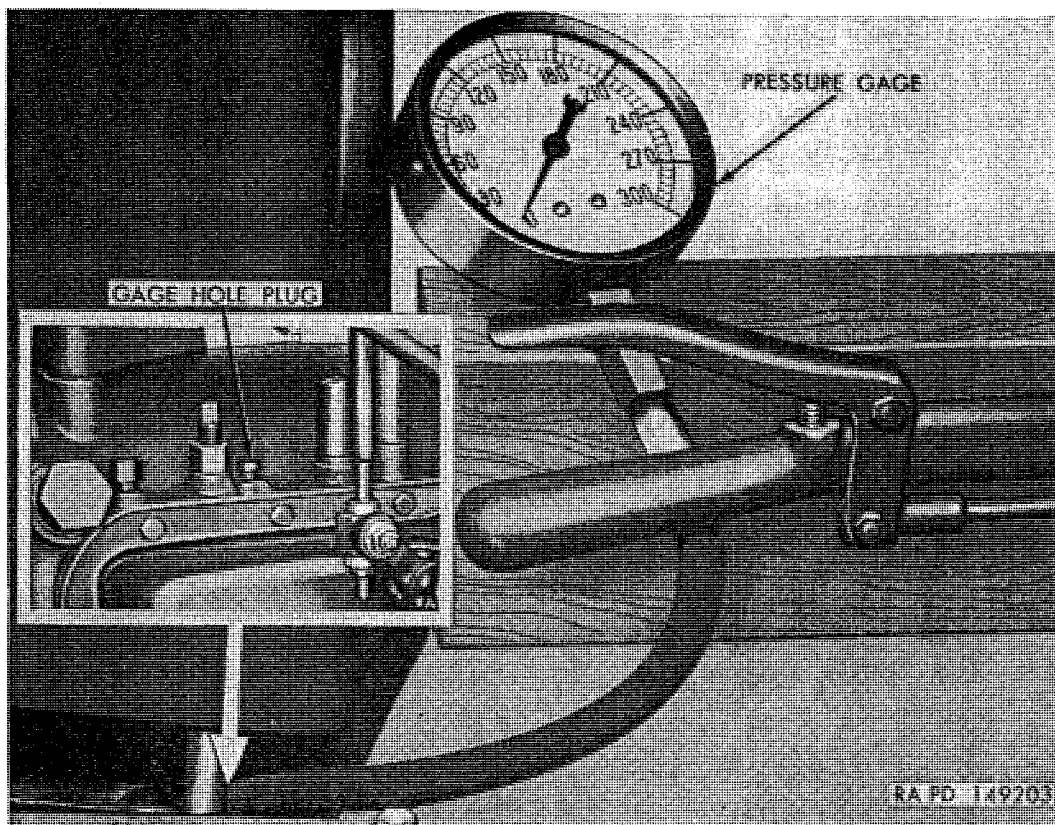
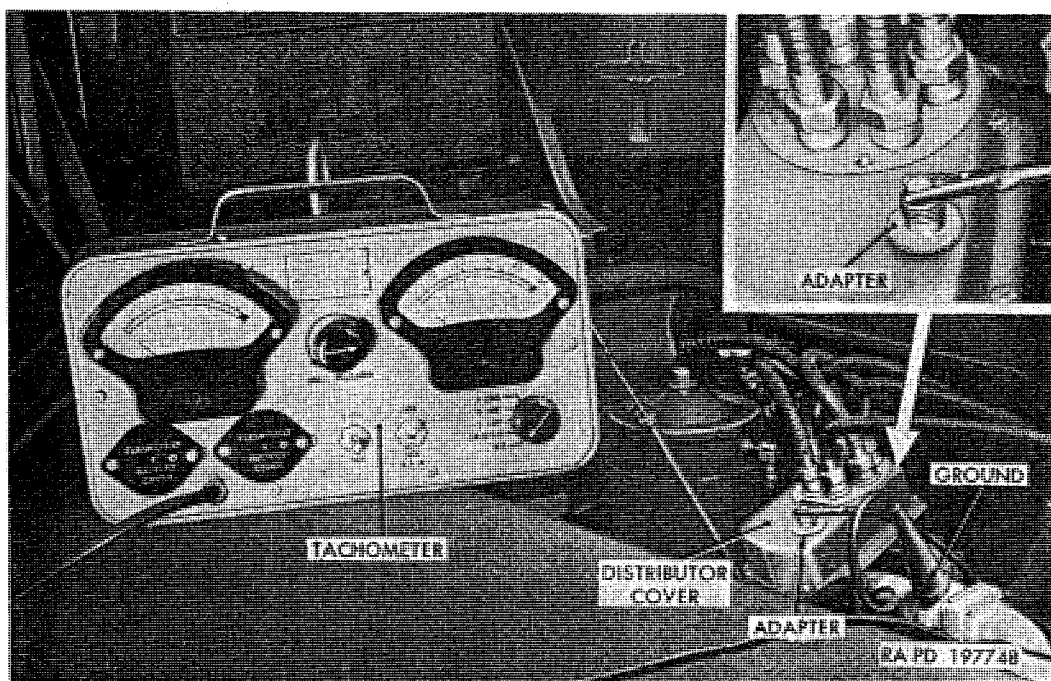

Figure 189. Use of gage B7950330 when making oil pressure test.
Figure 190. Using electric tachometer to check engine rpm.
- (1) Lift floor plate to gain access to pressure takeoff pipe plug, located on top of transmission case between front and rear band adjusting screws; then remove pressure takeoff pipe plug.
- (2) Install adapter of pressure checking gage B7950330 (fig. 189) in hole in transmission case from which pipe plug was removed, leaving gage seated on floor of truck cab.
- (3) Remove access screw from top of engine distributor cover; then thread adapter (fig. 190) into hole in cover from which access screw was removed.
- (4) Connect electric tachometer to adapter and ground (fig. 190).
- (5) Start engine and run for several minutes until engine and transmission are warmed to operating temperature.
- (9) Electric tachometer (fig. 190) and oil pressure checking gage B7950330 (fig. 189) should remain connected during road test (par. 199) and operating oil pressure test (b below).
b. Truck Moving Forward. Use electric tachometer and oil pressure checking gage B7950330 (fig. 189) during road test (par. 199) and take oil pressure reading after each upshift. Pressure will be less as instant shift is made but should return to original reading after shift is completed. If pressure loss or slippage is noted, check symptoms and causes in table VI.
c. Reduction Unit Oil Pump Pressure Test. During road test (par. 199), make reduction unit oil pump pressure test as in (1), (2), and (3) below.
- (1) With pressure checking gage B7950330 (fig. 189) installed, drive truck forward at speed of approximately 30 mph; then move transmission control lever into N (neutral) HIGH RANGE position.
- (2) Turn off ignition switch, and note reading on pressure checking gage with vehicle coasting. Pressure should be between 95 and 110 psi.
- (3) If pressure is lower than 95 psi, probable cause is faulty reduction unit oil pump. Notify ordnance maintenance personnel.